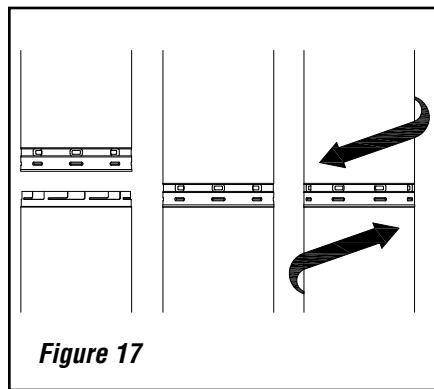

Figure 17
8" DV Lock (8DVL) direct-vent system components are unitized concentric pipe components featuring positive twist lock connections (see **Figure 17**).
Push the pipe sections completely together, then twist lock one section clockwise approximately one-quarter turn until the two sections are fully locked (see **Figure 17**). Indentations on the female end of black painted pipe and fittings will not be visible unless by examining the inside of the female ends.
Push the vent component against the previous section until it fully engages, then twist the component clockwise running the dimples down and along the incline channels until they seat at the end of the channels. **This seating position is indicated by the alignment of the indents into the entry slots as shown in Figure 17.**
F. Change vent direction to horizontal/inclined run—At transition from or to a horizontal/inclined run, install the 8DVLE45 and 8DVLE90 elbows in the same manner as the straight vent sections. Fully engage the inner and outer unitized pipes at the bottom of the elbow. Rotate the elbow in the desired direction. **NOTE:** Three (3) holes are provided at the bottom of the elbows. Secure the elbow in place with a minimum of two (2) selftapping screws. The top of the elbow will connect to straight lengths of 8" DV Lock pipe by twist-locking the pieces together. See **Figure 17 on Page 16** and **Figure 19**.
8" DV Lock direct-vent system components are unitized concentric pipe components featuring positive twist lock connection, (*refer to Figure 17 on Page 16*). All of the appliances covered in this document are fitted with collars having locking inclined channels. The dimpled end of the vent components fit over the appliance collar to create the positive twist lock connection.
C. Frame ceiling opening—If the vertical route is to penetrate a ceiling, use plumb line to locate the center above the appliance. Cut and/or frame an opening, 13" x 13" (330 mm x 330 mm) inside dimensions, about this center (*refer to Figure 17 on Page 16*).
Push the pipe sections completely together, then twist lock one section clockwise approximately one-quarter turn until the two sections are fully locked (*see Figure 17*). Indentations on the female end of black painted pipe and fittings will not be visible unless by examining the inside of the female ends.
H. Change vent direction—At transition from or to a horizontal/inclined run, install the 8DVLE45 and 8DVLE90 elbows in the same manner as the straight vent sections. The elbows feature a twist section to allow them to be routed about the center axis of their initial collar section to align with the required direction of the next vent run element. **Twist elbow sections in a clockwise direction only so as to avoid the possibility of unlocking any of the previously connected vent sections** (*see Figure 17 on Page 18*).